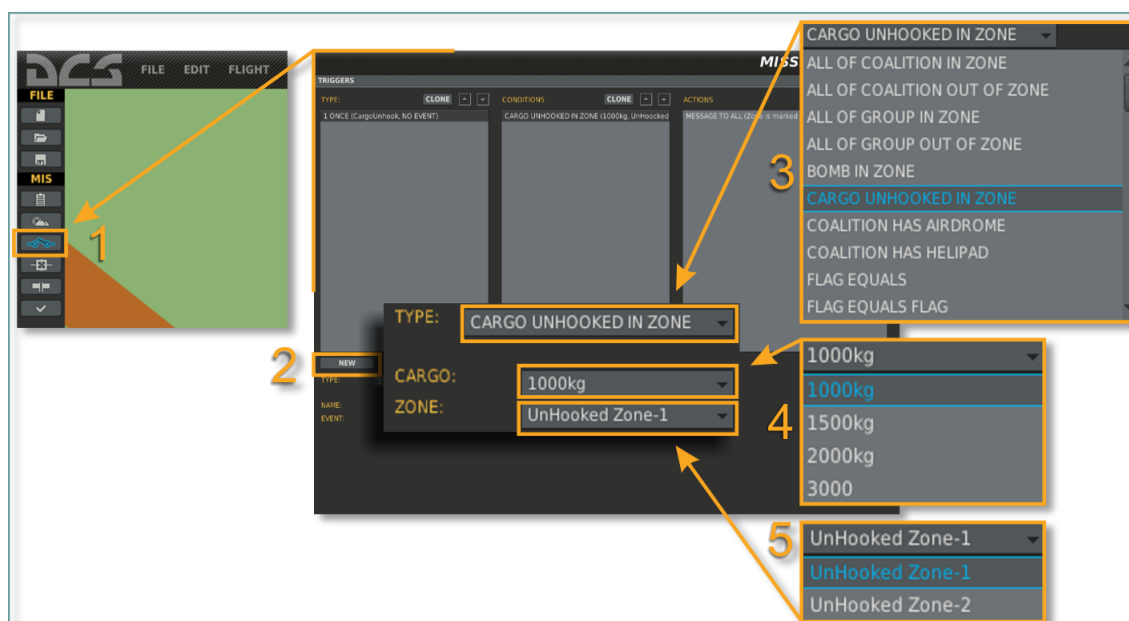

Fig. 13.6. Creation of the unhook zone
2. In the "TRIGGERS" tab Fig. 13.6 (1) create a new trigger (2); select from the drop-down list the CARGO UNHOOKED IN ZONE (3) condition; select cargo, which must be unhooked at this zone (4) and link the selected cargo with the unhook zone (5):